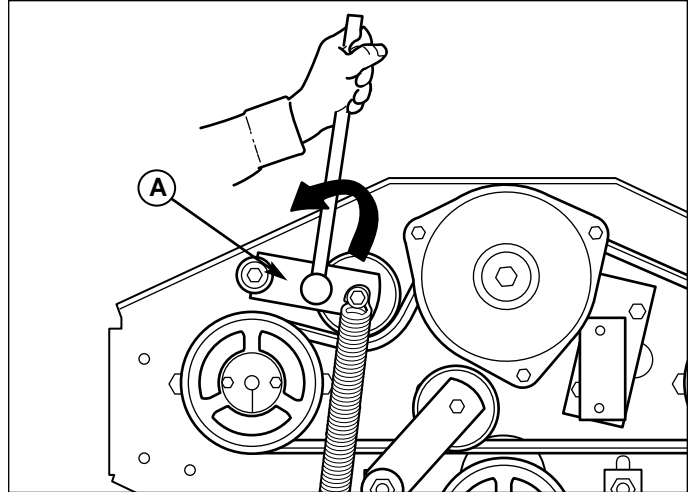

Figure 6. Pump Drive Belt Replacement
2. Carefully rotate the idler arm with the breaker bar counter-clockwise (see Figure 6) and wrap the belts around the bottom side of the idler arm pulley and place the belts in the left-hand pump pulley grooves.